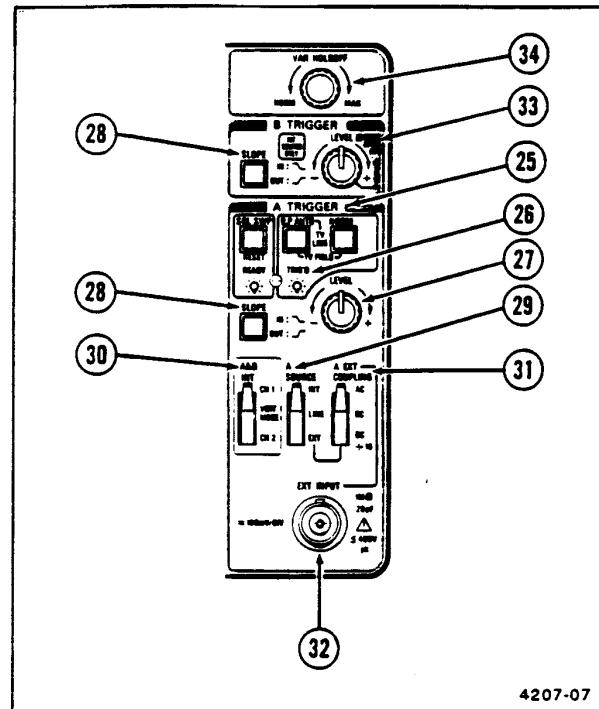

Figure 2-6. Trigger controls, connector, and indicator.
Refer to Fig. 2-6 for locations of items 25 to 34.